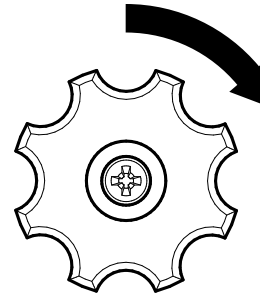

Figure 33. Propane Tank Shut-Off Valve (Closed)
3. If LPG mode was in use, turn shut off valve knob clockwise to **CLOSE** (Figure 33).